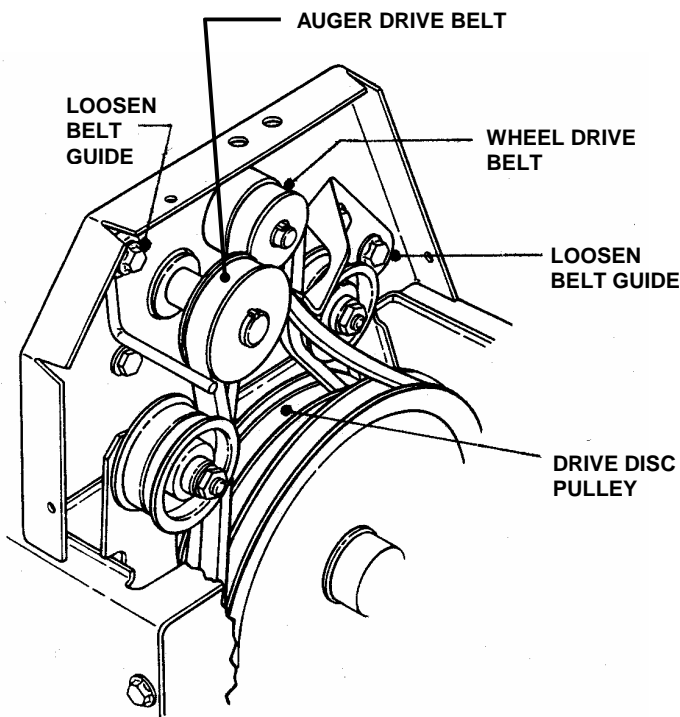

FIGURE 4.6
3. Loosen belt guide closest to the auger drive belt. See Figure 4.6.
4. Remove wheel drive belt from around engine pulley. See Figure 4.6.